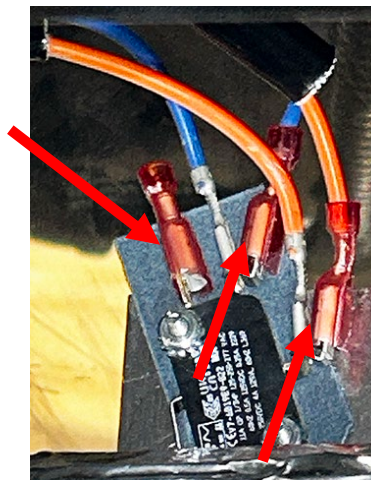

Figure 7
14. Disconnect the existing harnesses attached to the switch (see Figures 7 & 8). **DO NOT REMOVE** the unused insulated connector from the switch.